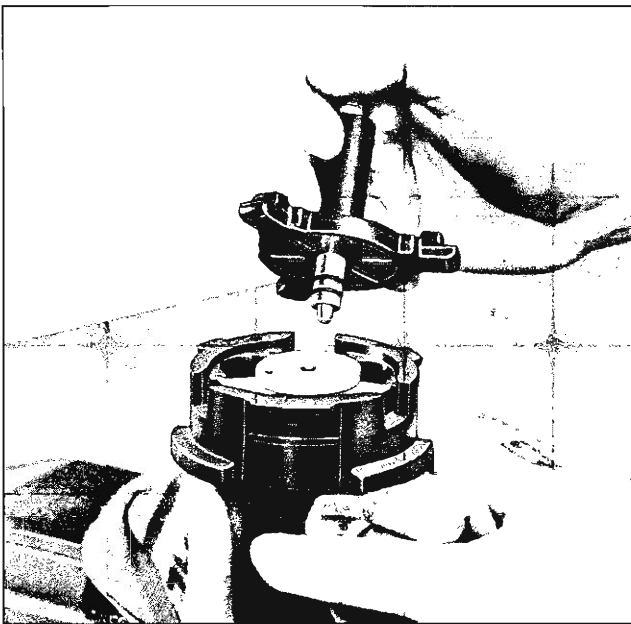

Fig. 33—Installing Reaction Retainer on to Power Piston
24. Center reaction plate on the reaction levers (numbered side up), and place reaction retainer down on power piston. (Make sure small end of push rod engages in center hole of reaction plate). (Fig. 33)